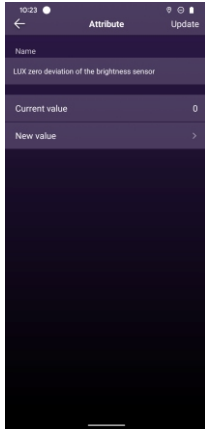
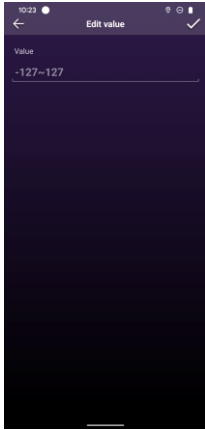

Figure 29
Figure 30
18. The attribute **“Lux zero deviation of the brightness sensor”** is to set the compensation lux value for the detected brightness to prevent deviation of the detected brightness value. Tap it to enter setting interface, **“Current value”** means current compensation value, **“New value”** is to set a new compensation value, available setting range is -127~127lux, factory default is 0. Once set a new value, tap **“Update”** button at upper right corner to save the setting (as shown in **Figure 29 & Figure 30**).